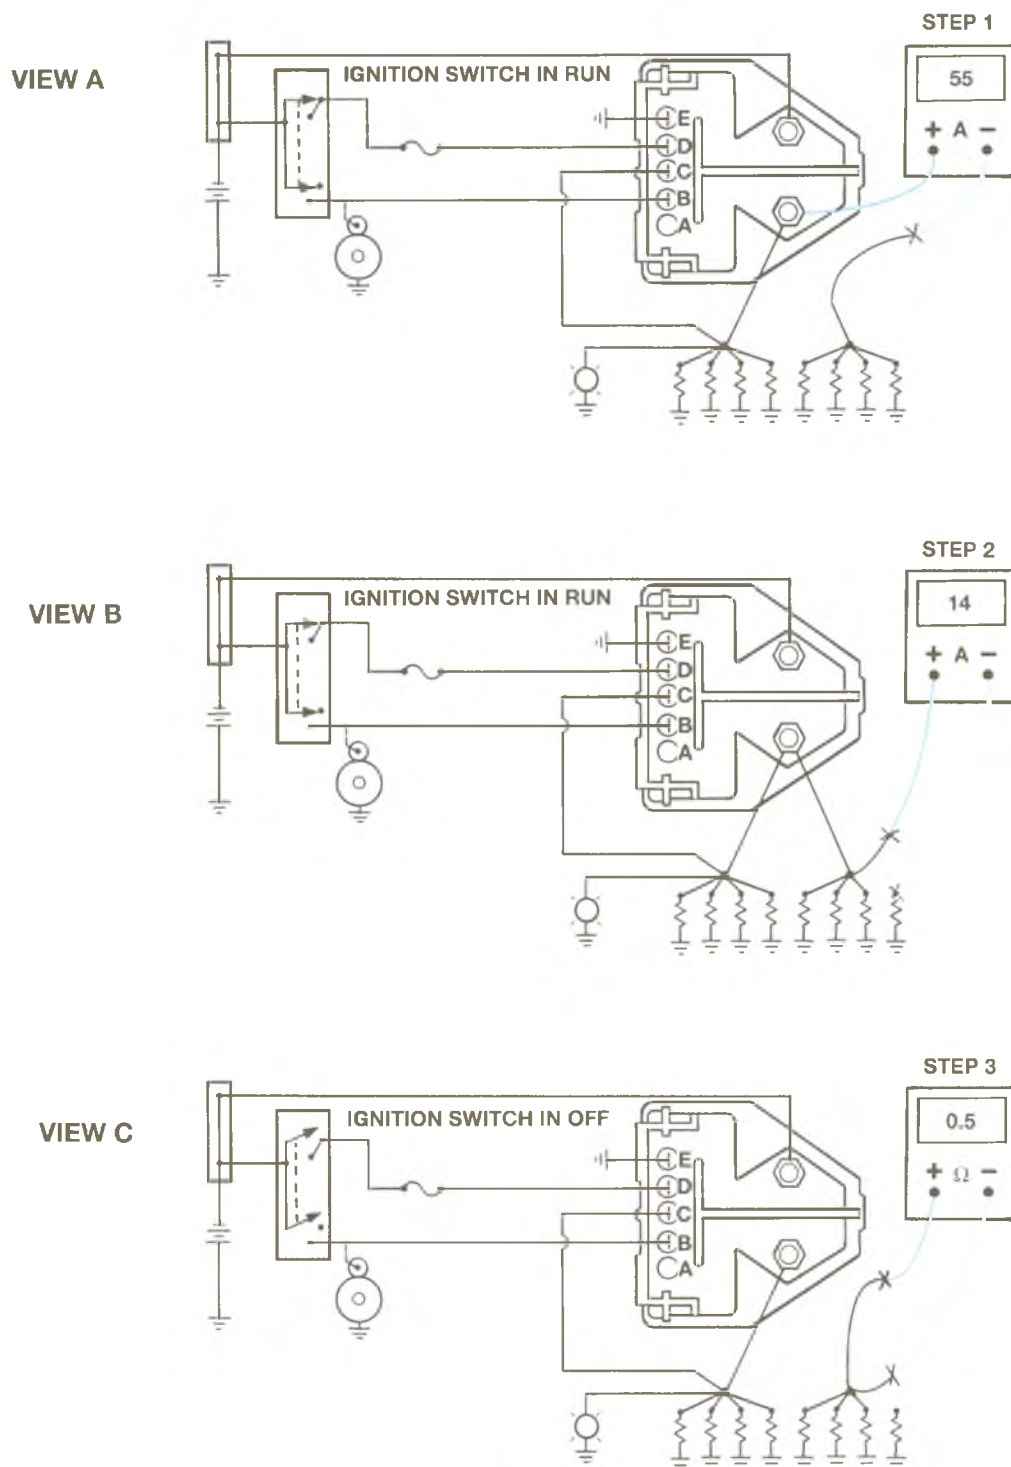

Figure 8-20, Glow Plug System Diagnosis – Primary Checks
3. Install an ammeter in series with one glow plug wire, move the ignition switch to RUN and measure the amperage of the glow plug (refer to Figure 8-20, view B):
4. Check the continuity of the glow plug wiring harness from the controller/relay terminal stud to the glow plug terminal (refer to Figure 8-20, view C):